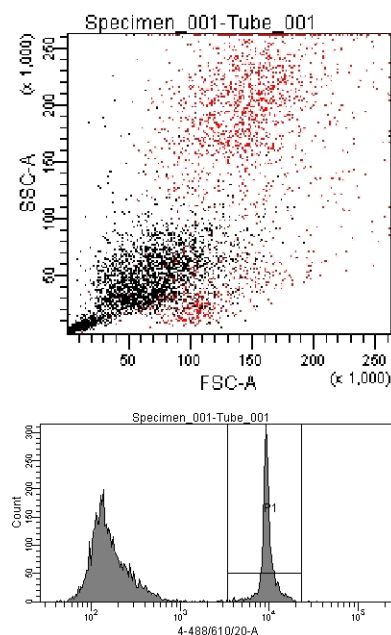

Fig. 4. Nucleated cell gating by CyTRAK Orange™ intensity of intact, unlysed bone marrow with retained forward and side scatter characteristics
**Flow cytometry:** CyTRAK Orange™ can be excited by blue and green laser sources. It is not excited by red light. Detect using bandpass filters centred on 610 nm. CyTRAK Orange™ marks nucleated cells for gating (see fig. 4). CyTRAK Orange™ can be used to discriminate arrested or senescent cells based on increased brightness.